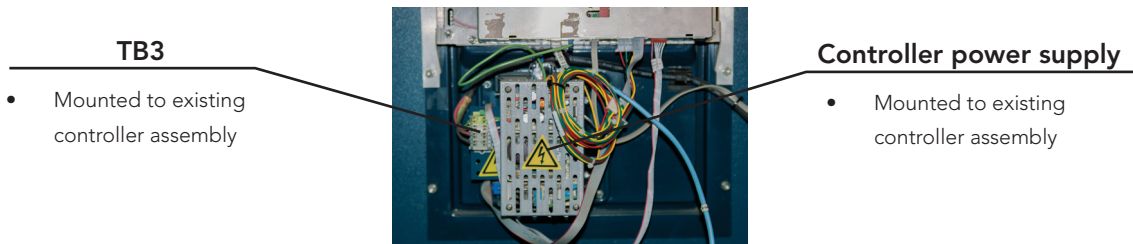
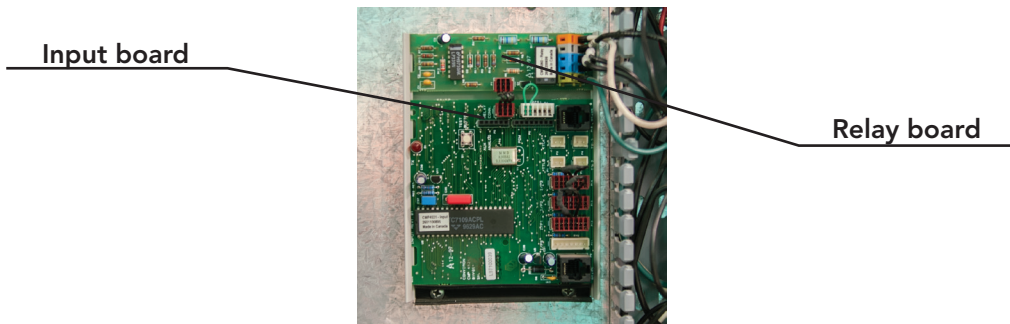

Figure 2
Figure 3
- 5. Remove controller power supply (Figure 2) (if not mounted to existing controller assembly), input board and relay board (Figure 3) along with all associated existing wires. Place input and relay boards in static sensitive packaging. Existing wires may be discarded.
- 18. Using original chamber schematics provided, locate existing wire labelled 1 leaving the power supply breaker and follow it to the 1 terminal at terminal block 3 (TB3) (Figure 2). Remove it from the 1 terminal and wire to the 3 terminal and remove wires to the start/stop switch. If use of the start/stop switch is required, run the wire labelled 1 from the power supply breaker to the start/stop switch replacing the wire labelled 2, and remove the wire labelled 2 from the panel.